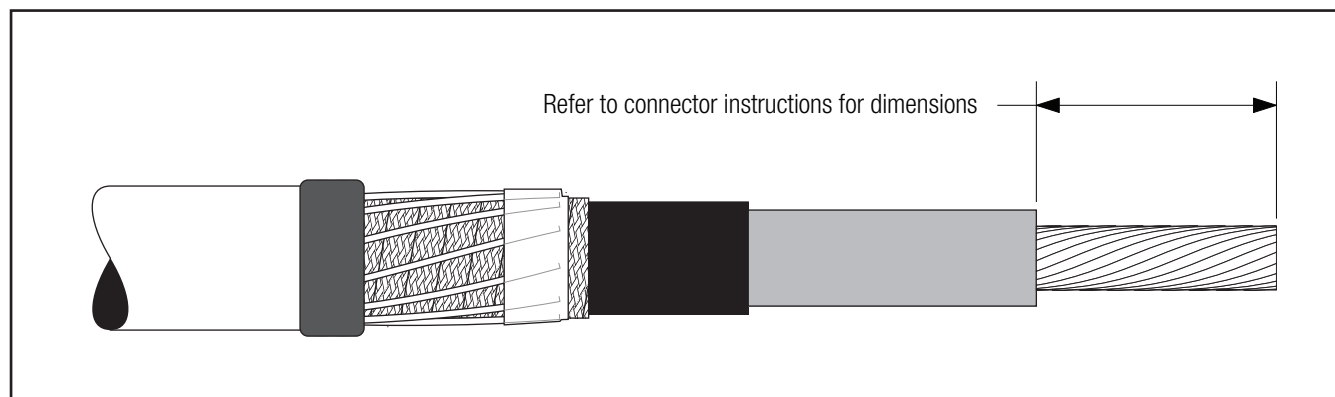

Figure 7
- 3.1 If using a 3M Shearbolt Connector QCI 350-750 or QCI 500-1000, refer to the instructions included with the connector for insulation cut-back dimension. Insulation removal length shall not exceed 3 3/4" (95 mm) from conductor end (*Figure 7*).